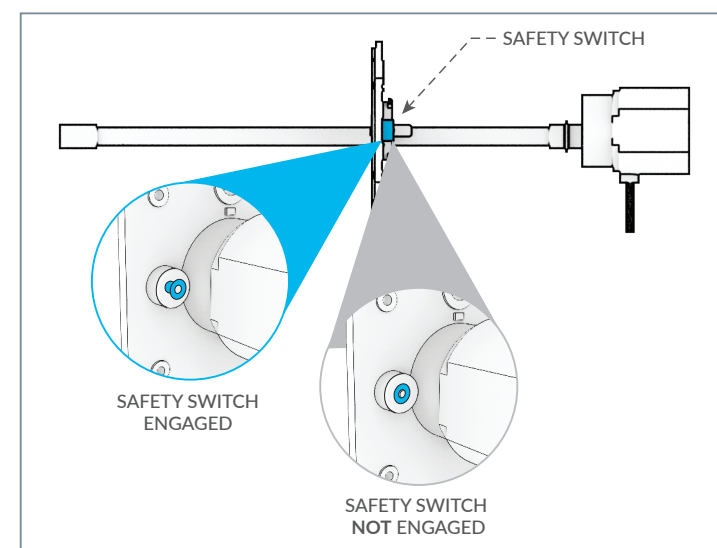

FIGURE 18
If blue glow is not seen, make sure the base is properly installed. There is a safety switch located under the base that needs to be seated properly onto the duct. **Make sure that the base is mounted tightly so that the plated washer top of the switch is raised approximately $\frac{3}{16}$ "**, this means the switch is fully engaged. (See Figure 18)
1. Pull back metal washer on left side of mounting base. If lamp lights up, the base needs tightening to ensure that the safety switch is fully engaged. (Reference **Figure 18 on page 17.**)